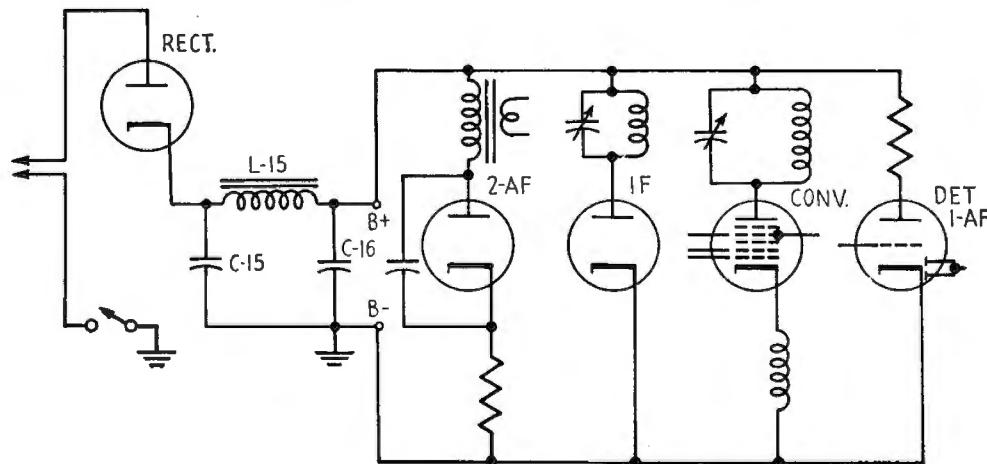

FIG. 18-24.—Skeleton B circuit of a typical AC/DC receiver.
mer shorting to its shielding—Fig. 18-24 shows a complete *B* circuit of a typical receiver, for analysis of the likely locations of the short.
12. In the *B* circuit breakdown of Fig. 18-24, assume than an ohmmeter check from common negative to *B* plus gives a reading of 40 ohms. List some of the likely locations of the short. Outline a procedure that could be used in tracking down the short.